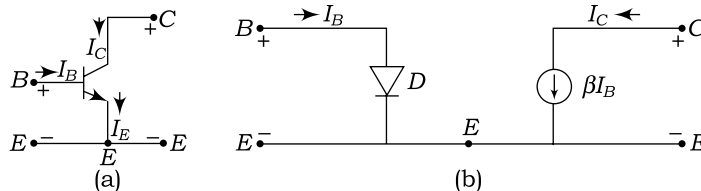
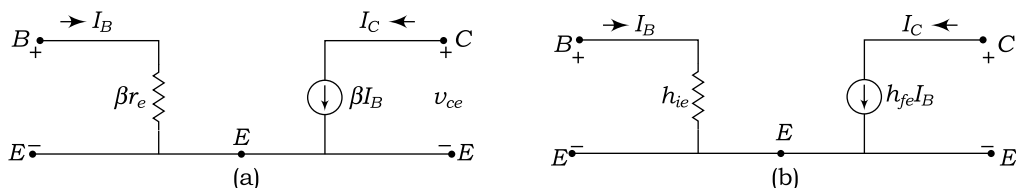

Fig. 3.13 (a) NPN bipolar junction transistor in CE configuration (b) dc equivalent circuit of Fig. 3.13(a)
Fig. 3.14 (a) r_e model of npn transistor of *NPN* transistor in *CE* configuration (b) Approximate hybrid- π equivalent circuit of Fig. 3.14
In a common-emitter configuration, the base-emitter junction is forward biased and the collector current I_C is β times base current I_B and it can be expressed as $I_C = \beta I_B$. The dc equivalent circuit of an NPN transistor in common-emitter (CE) configuration is shown in Fig. 3.13. During ac condition, the ac resistance of the base emitter junction is equal to
When the ac resistance is placed in Fig. 3.13(b), we get r_e model of *NPN* transistor in common-emitter (*CE*) configuration as shown in Fig. 3.14(a). The approximate hybrid-equivalent circuit of an *NPN* transistor in common-emitter (*CE*) configuration is shown in Fig. 3.14(b). If we compare Fig. 3.14(a) and Fig. 3.14(b), we get